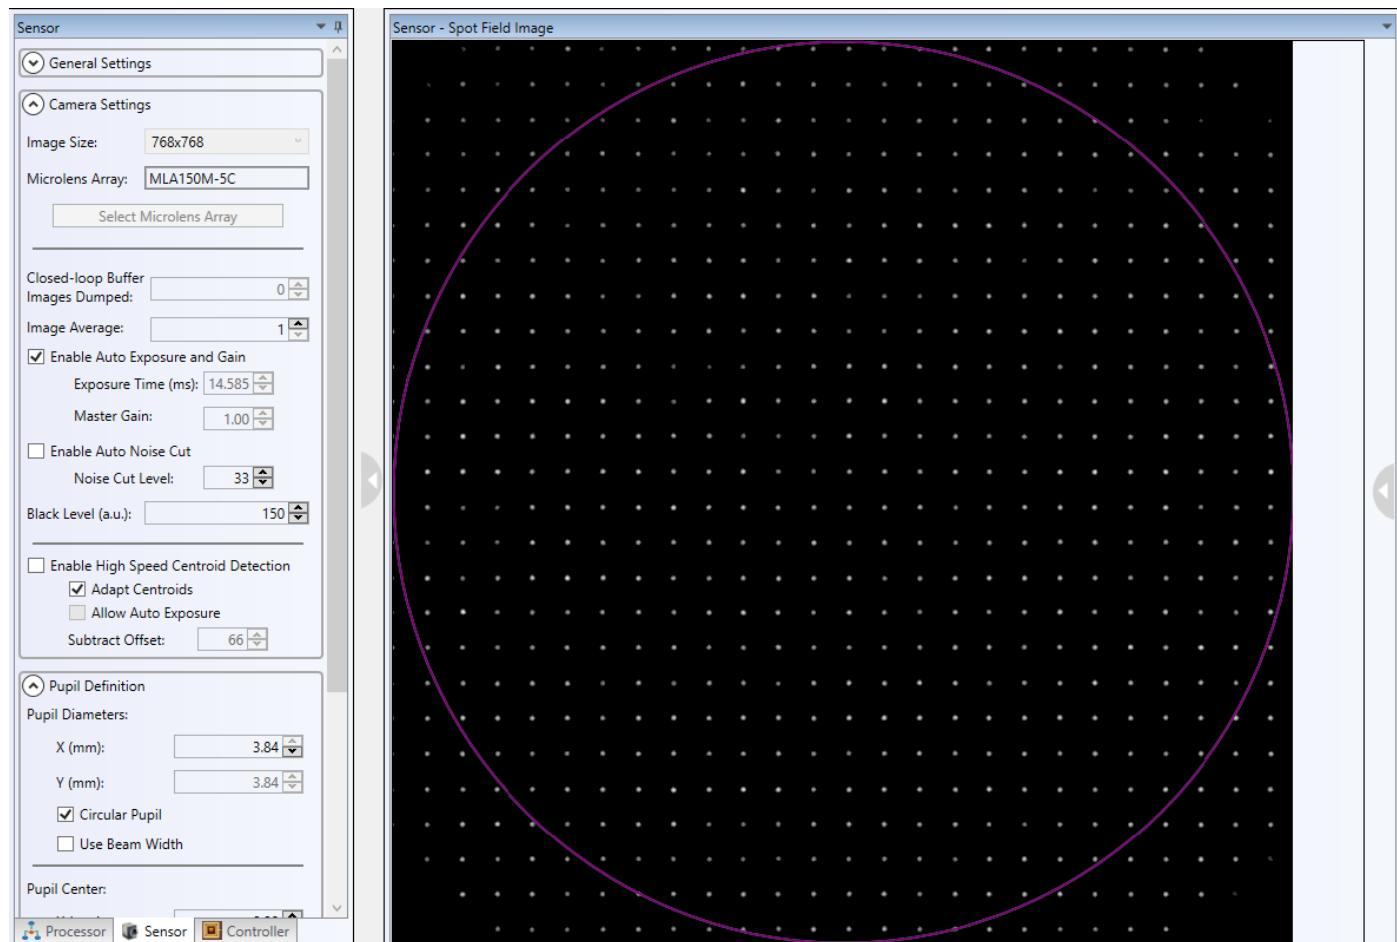

Figure 169 *Spot Field created when the incident beam is properly centered on the WFS.*
- The pupil diameter can be set large enough to facilitate centering the pupil to the DM projection on the WFS. Note, the WFS is rotated 90° with respect to the plane of the system; therefore, the T-B (top-bottom) direction is the L-R direction on the DM. The width of the DM projection on the WFS in this direction is smaller than the T-B dimension due to the angular alignment of the DM relative to the subassembly-3 and WFS optical path. See Figure 169. Note the diameter 3.88 mm in the figure. This value was used to calculate the pupil diameter at the WFS for a single DM AO Kit including the DMP40 that is equivalent to the 10 mm active diameter at the DM, 3.37 mm as seen in the preceding figure.
2. The center of the DM should be aligned to the center of the Shack-Hartmann sensor. The active area of the DM (4.4 mm x 4.4 mm) is imaged onto the lens array of the SH sensor via a 1:1 optical relay. Aligning the center of the DM with the center of the SH sensor ensures that the outlying DM actuators affect SH spot positions. The beam should then be centered in sensor array showing a spot field like the one below in Figure 169. Please note that the number of lenses available across the image will depend on the image size, which also impacts speed. The default image size is 768 x 768.